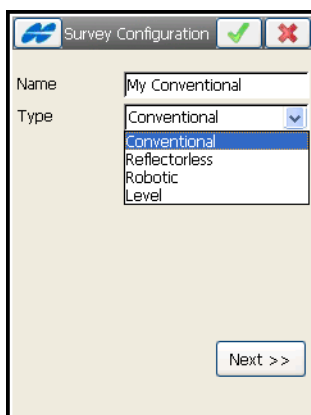

Figure 4-72. Survey
2. On the **Survey** screen, enter a name for the Configuration and select its type, then tap **Next** (Figure 4-72 on page 4-57).